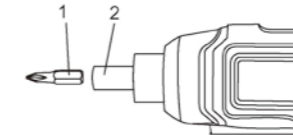

**Fig. 3**
- Pull outward on the cartridge knob until the bits are fully exposed (Fig. 3).